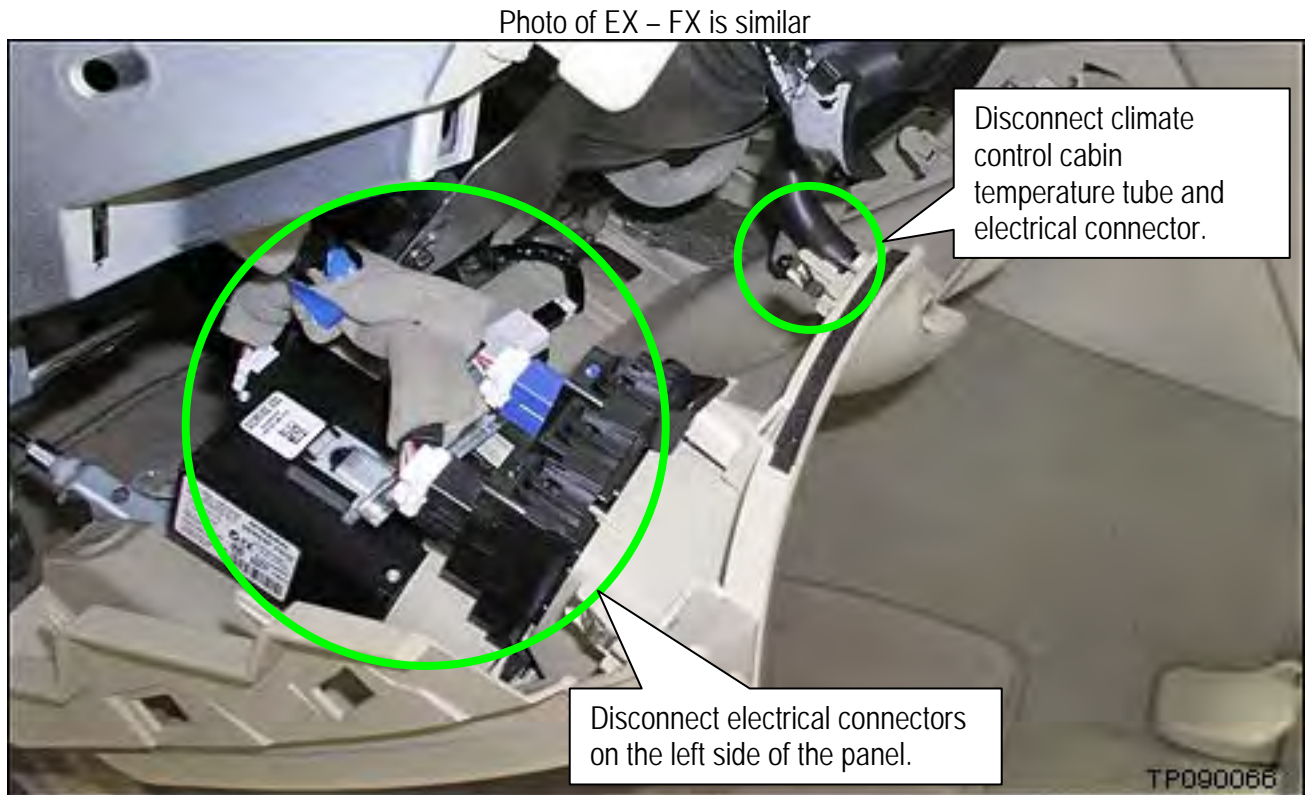

Figure 8
- e. Disconnect the climate control cabin temperature tube and electrical connector (see Figure 8).
- f. Disconnect electrical connectors for the items on the left side of the panel (see Figure 8).